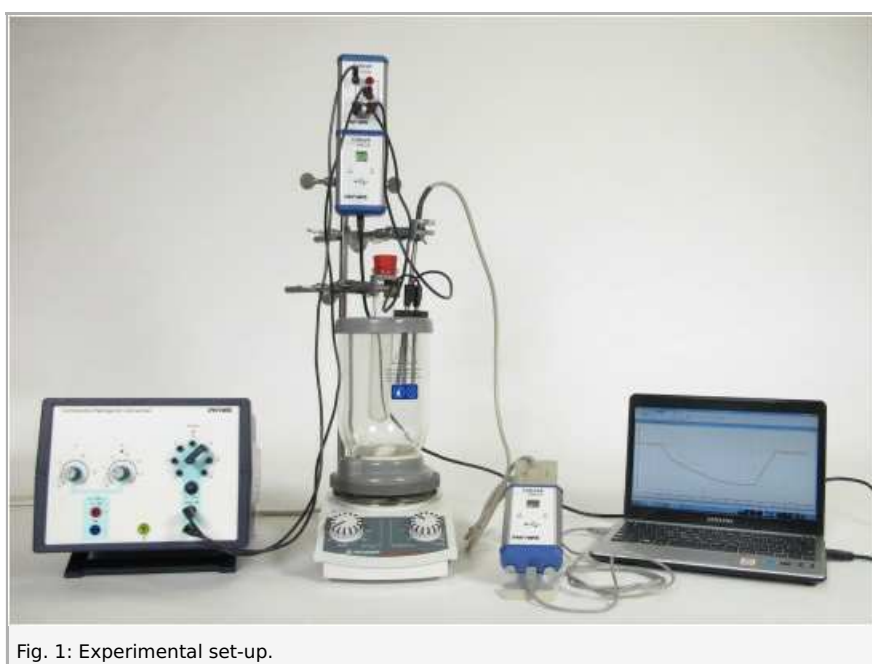

Fig. 1: Experimental set-up.
- Set up the experiment as shown in Fig. 1.